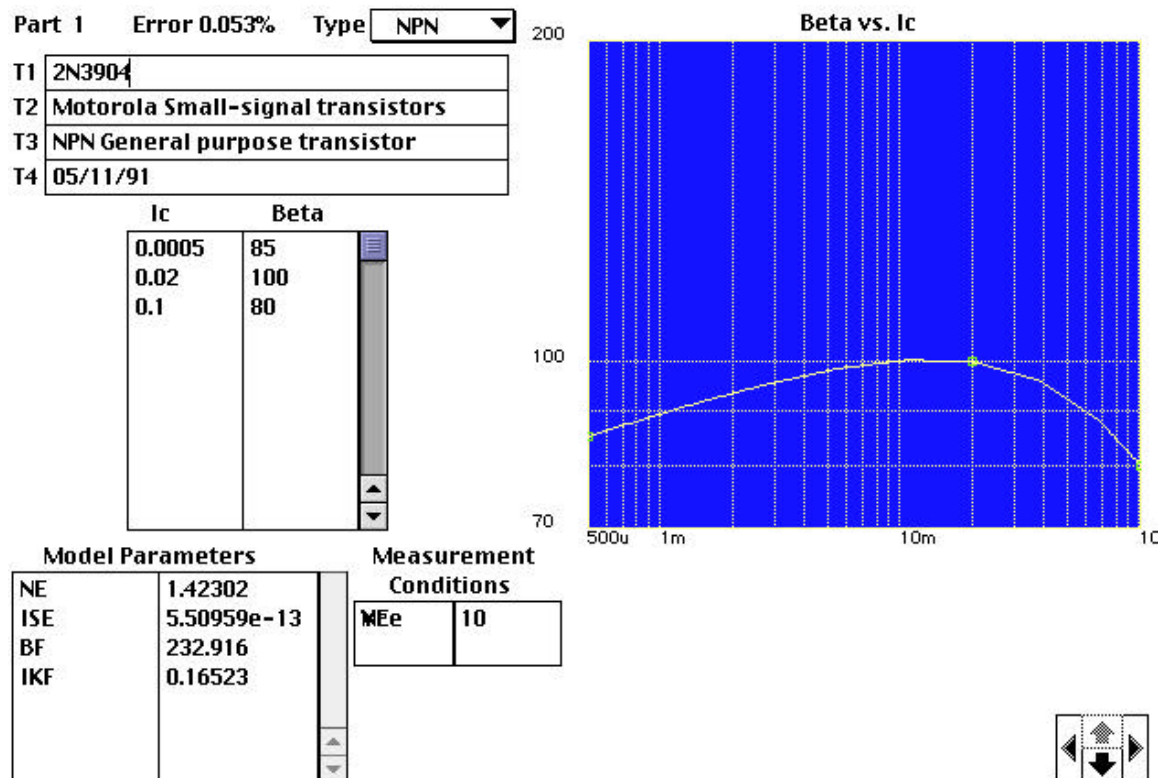
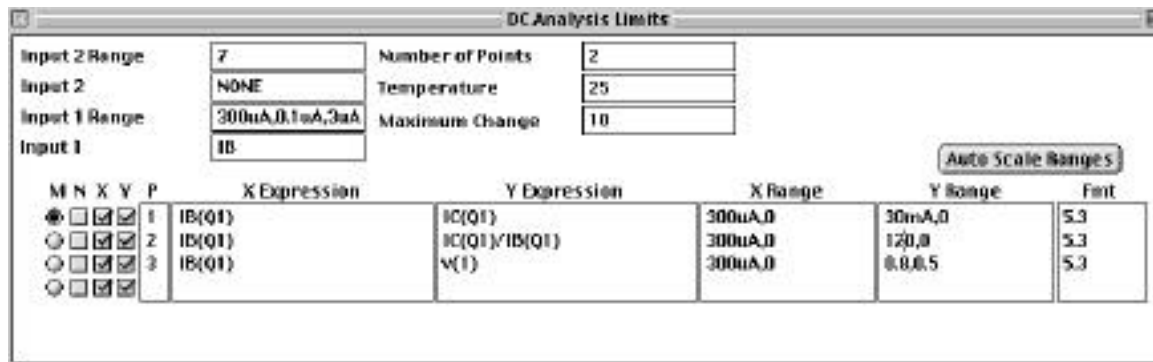
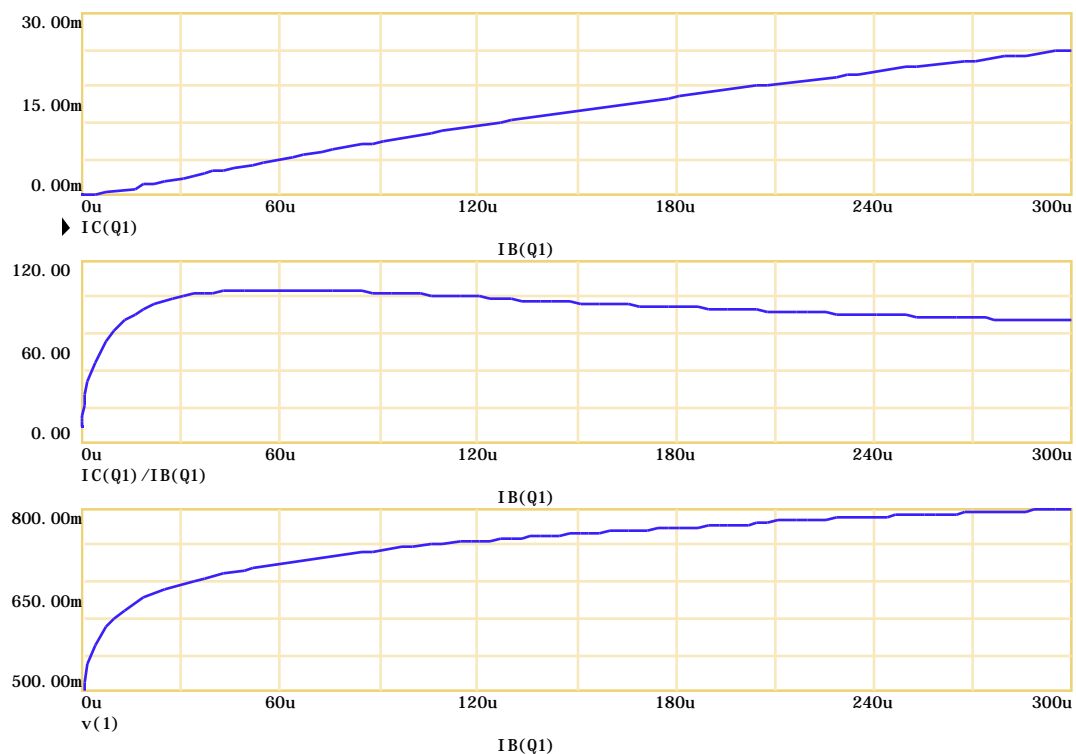

Figure 3.1 Information on transistor 2N3904
Figure 3.7 Limit Box.
Figure 3.8 Current gain
Several different types of transistors are available. For more information open the file MODEL PPC to view some of the components. Locate a transistor 2N3904 and find the information shown in Figure 3.1
We will vary the base current and observe collector current as well as base voltage $v(1)$ as postulated in Figure 3.7. On plot 2 we plot current gain for the transistor. The results are shown in Figure 3.8 (this Figure was imported using snap-shot)
- a. Relate results of Figure 3.8 to that of Figure 3.1 and Figure 3.5.